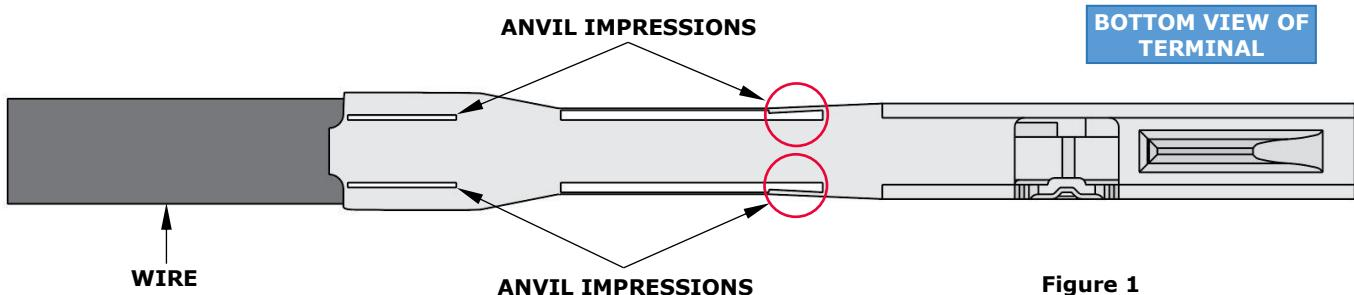

Figure 1
- This is an expected condition. See Figure 1.
ASSEMBLY DRAWING**Figure 1**